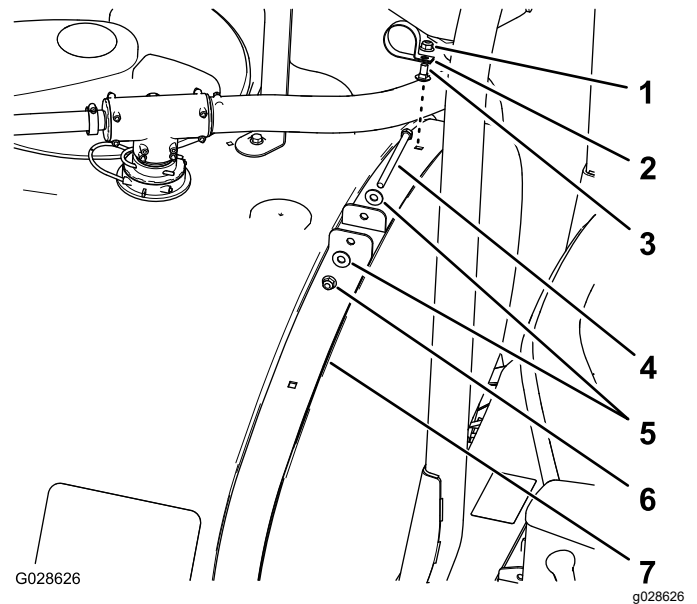

Figure 5
2. Remove and retain the bolt (3/8 x 5 inch), washers, and flanged locknut that secure the front tank straps at the top of the tank (Figure 5).